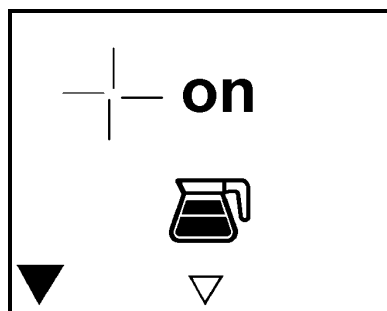

Fig. 15
2. Press the right-hand side of the setting key ← (13) to switch the mixer on, see fig. 15.
3. Press the left-hand side of the setting key → (13) to switch the mixer off.